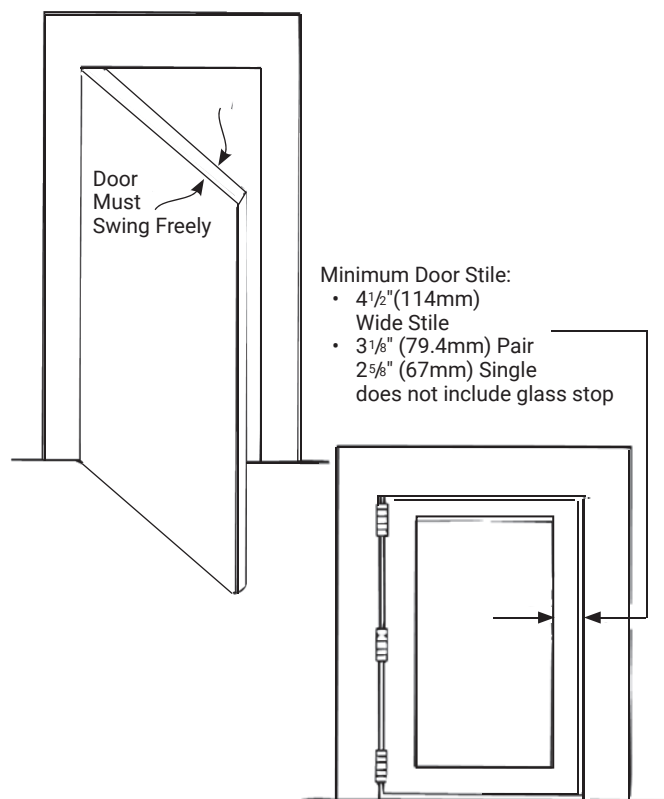

Figure 1: Installation Check
1. Make sure the door is plumb and level. Check that the hinges are secure and not missing hardware (Figure 1).
2. If surface of the door is free of raised projections, device may be installed without a shim kit. One (1) shim kit is needed for each ¼" of projection:
4. Determine if door is reinforced. Doors and frame thickness must have three (3) full screw threads to be considered reinforced.